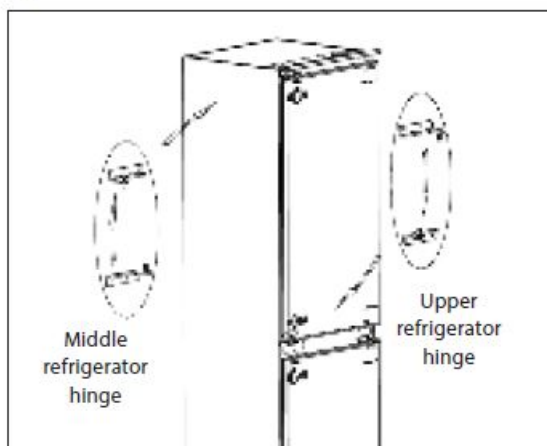

Fig. 5
3. Turn the upper refrigerator hinge by 180 ° and mount it to the opposite corner compared to the original position (to the middle part of the appliance) as shown in Fig. 5.
5. Turn the middle refrigerator hinge by 180 ° and mount it to the opposite corner compared to the original position (to the upper part of the appliance) as shown in Fig. 5.